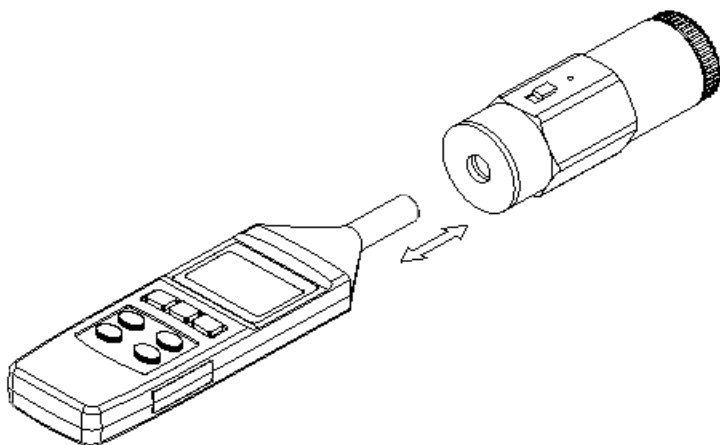

Fig. 2
- 2) Insert the microphone of calibrated " SOUND LEVEL METER " carefully all the way into the coupler section of the Sound Calibrator. (Refer to Fig. 2).
- 5) Adjust the calibration VR ( knob ) of the calibrated " SOUND LEVEL METER " until that the display reach to 94.0 dB ( 114 dB ) exactly or the meter pointer points to the " CAL " mark. ( Refer Fig. 2 )